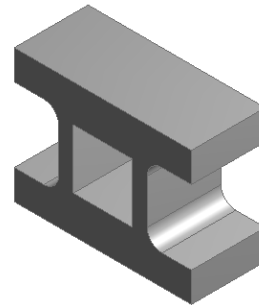

Figure 3-51 The model after generating the blend feature
5. Next, choose the **Generate** tool from the **Features** toolbar to finish creating the blend with the specified radius. The final model after creating the blend is shown in Figure 3-51.